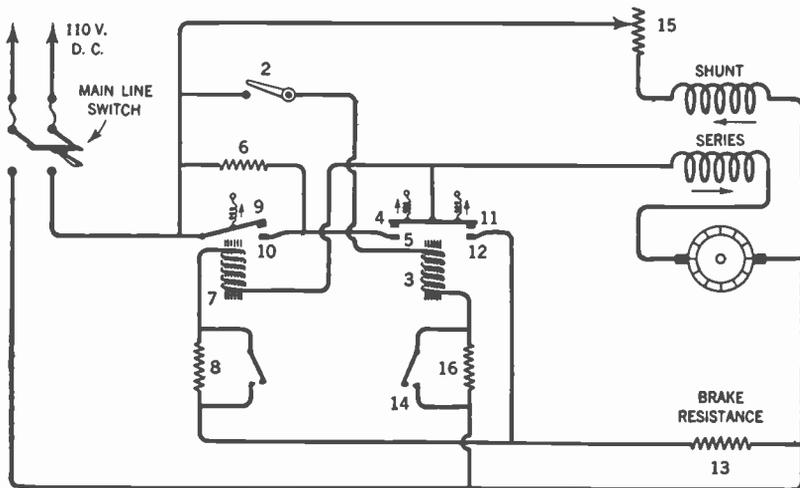

Fig. 78.—Automatic starter used with a compound-wound motor.
*Answer.* The circuits of an automatic starter employed with a compound-wound motor are shown in Figure 78. When the main line d-c. switch and the starting switch (2) are closed, the solenoid (3) is connected in shunt to the d-c. line with contacts (14) open. The flux from this solenoid attracts the lever (4), making contact with point (5), thereby closing the circuit from the d-c. line